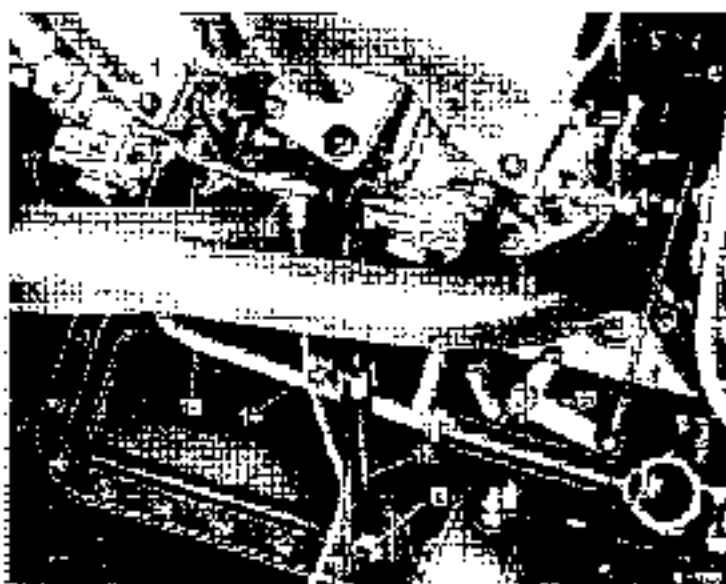

Fig. 07-0/51
b) in the case of the die-cast carburetor the fuel line to the accelerating pump is calibrated by the ball valve (55) with a diameter of 0.5 mm (installed as a standard part as from Engine End No. 55 01523). In all engines with Engine End Nos between 55 00709 (in which the first die-cast carburetors were installed) and 55 01822 the fuel line to the accelerating pump can be calibrated subsequently by installing the calibrated sleeve Part No. 000 071 03 40 on the ball valve (see also Job No. 01-3, Section I).
c) Sand-cast and die-cast carburetors differ in the arrangement of the canals in the carburetor housing and in the arrangement and design of the injection tube and the pump jet (Figs. 07-0/49 and 07-0/50).
When the engine is not running, the fuel accumulating in stage 1 of both carburetors runs off through the fuel outlet line (16) and ensures that the engine will start properly when hot. The arrangement of the fuel suction line and the fuel outlet line for the die-cast carburetors is shown in Fig. 07-0/51.